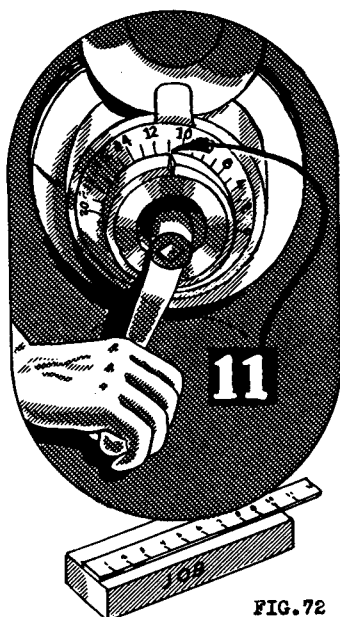

FIG. 72
2. Place the proper crank on the square end of the stroke-adjusting shaft (Fig. 72).
4. Consult the stroke-index dial and ascertain therefrom the length of the stroke for which the ram has been adjusted (Fig. 72).
2. Ascertain from the stroke-index dial the length of stroke for which the shaper has been adjusted. (Refer to Fig. 72.)